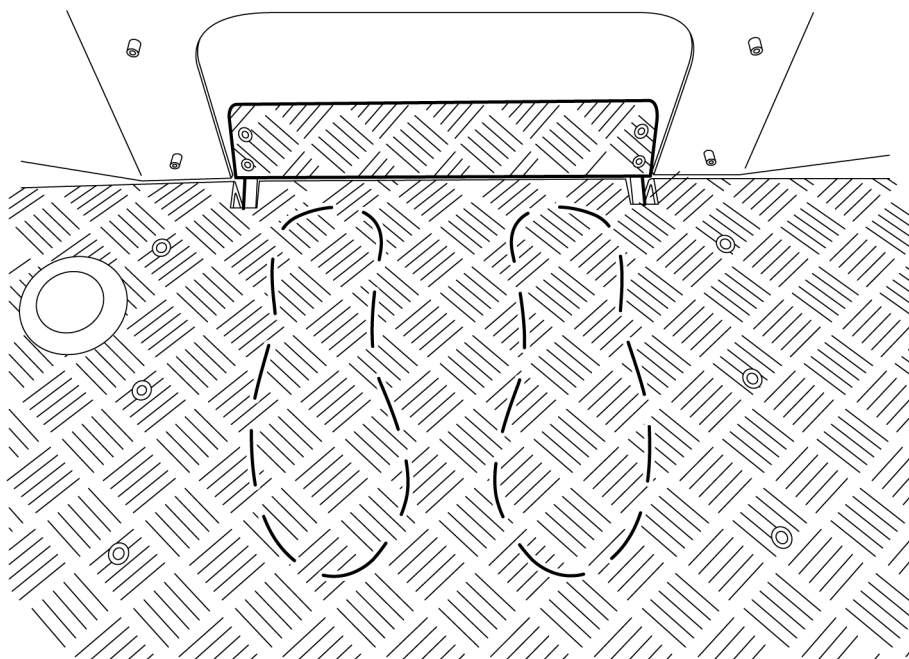

Figure 4-10. Foot marks
5. Place your feet on the foot marks indicated, see *Figure 4-10, page 32*.